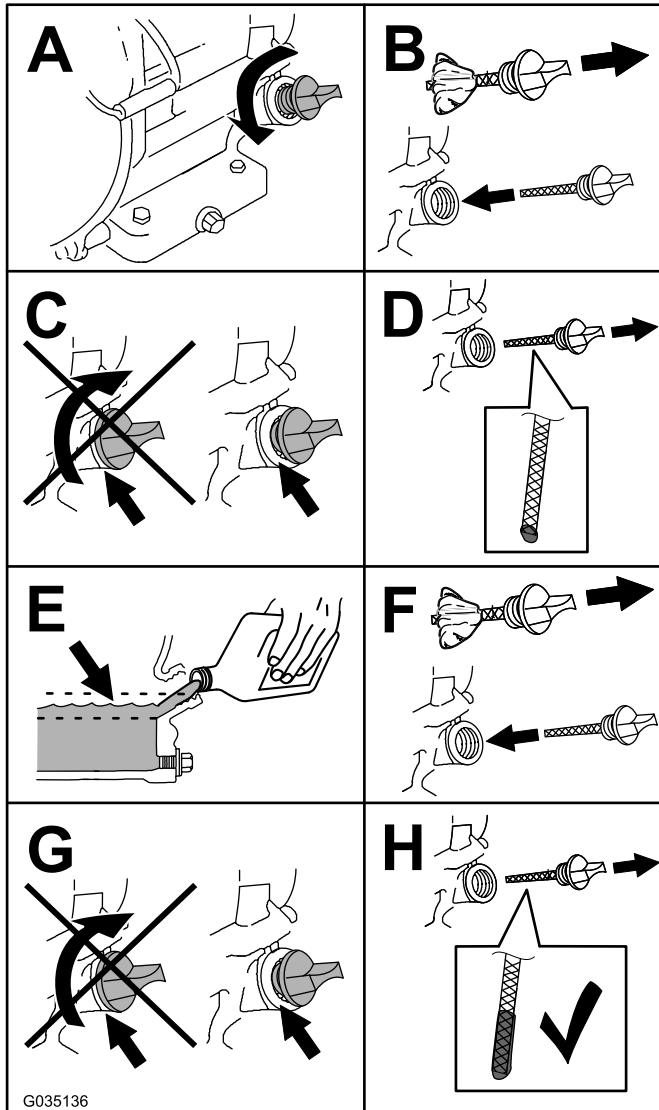

Figure 44
4. Check the oil level as shown in Figure 44.